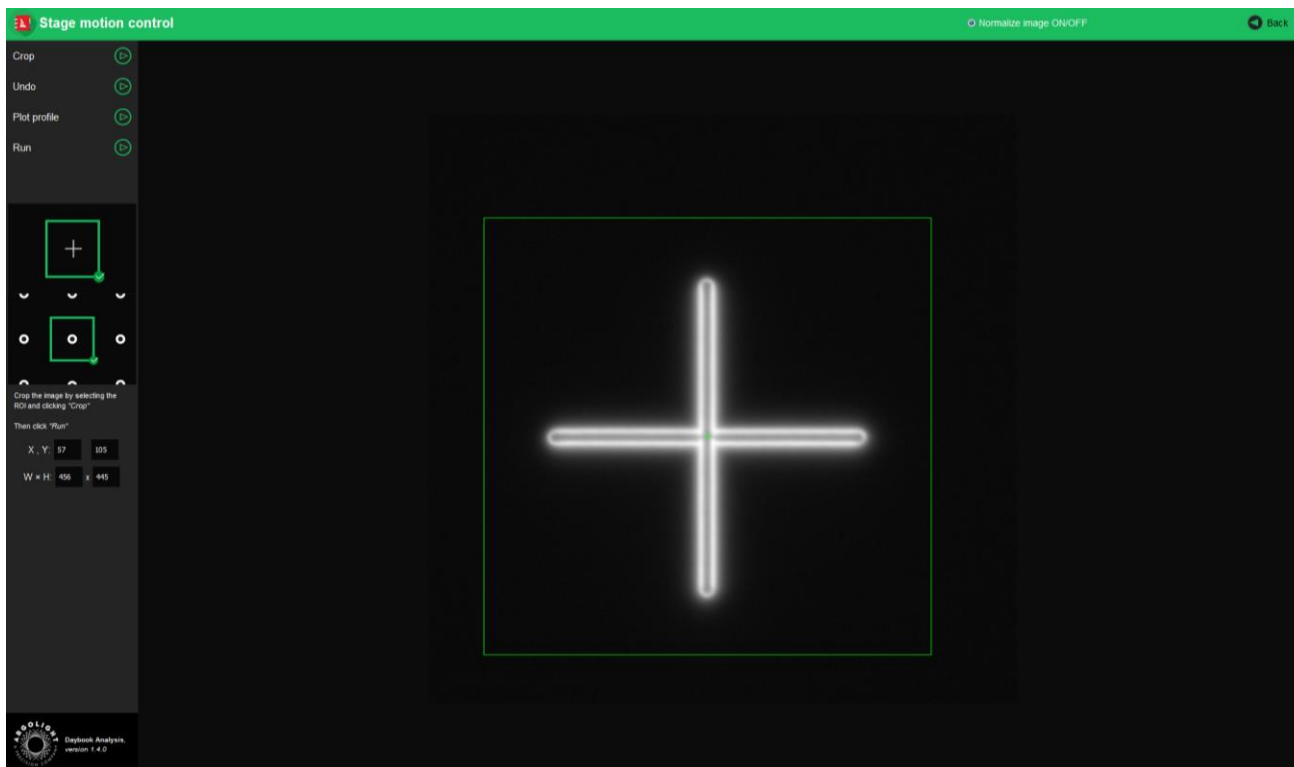

Figure 2: Crop window.
- f) If needed, select a region of interest (ROI) and click on “Crop” to crop the image (*cf.* Figure 2).